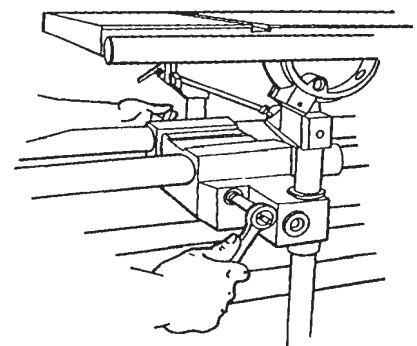

Figure B-45
3. If the carriage lock handle does not lock into the horizontal position or the carriage moves out of position, the lock needs adjusting. To adjust the lock, use a 1/2" socket with an extension and ratchet handle to tighten or loosen the nut located at the back of the carriage assembly, as shown in Figure B-45.